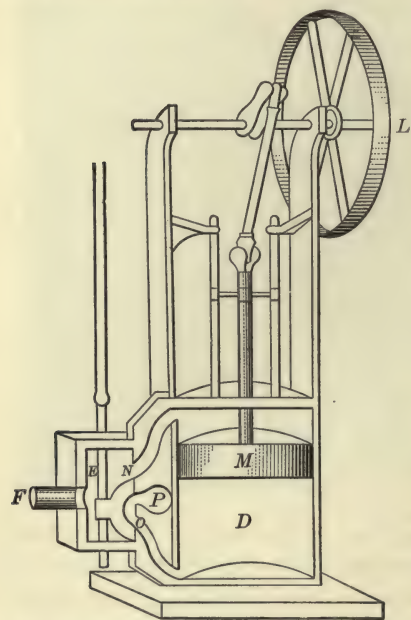

FIG. 189. — The principle of the steam engine
**Steam engines.** — A very simple illustration of the working of a steam engine is given in Figure 189. Steam under pressure